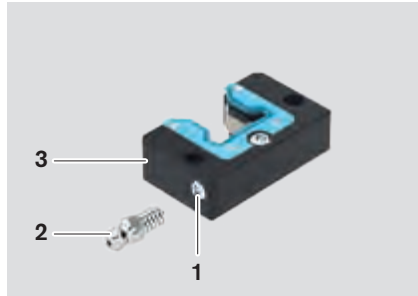
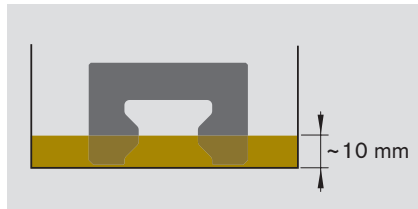

Fig. 1
Fig. 2
- Remove the set screw from the lube hole (Fig. 1, item 1) and keep it ready for later use.
- Screw in lube nipple (2).
- Lay the front lube unit (3) down flat and fill with the oil quantity specified in Table 2. Leave to settle for approx. 36 hours.
- For size 20 low profile: Stand the front lube unit in 10 mm of oil for approx. 36 hours (see Fig. 2)
- The size 20 low-profile front lube unit **cannot** be refilled through the lube port (see Fig. 2).